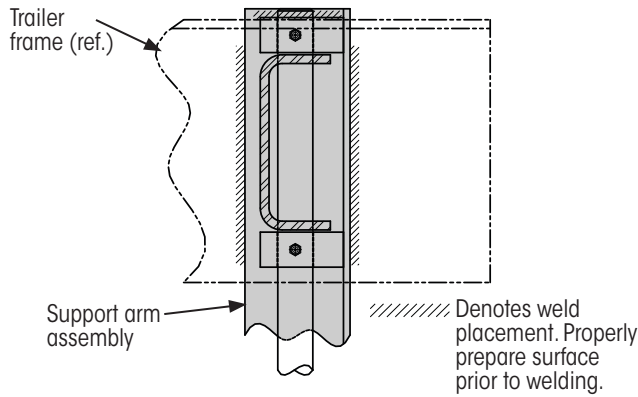

Figure 57: Kit SLKU welds (bottom view)
9. **Remove** temporary clamps and finish welding the SLKU assembly (Figure 57) according to specifications listed in the installation drawing1. Adhere to the same welding parameters as presented on **APPENDIX A: WELDING DETAILS** on page 44.